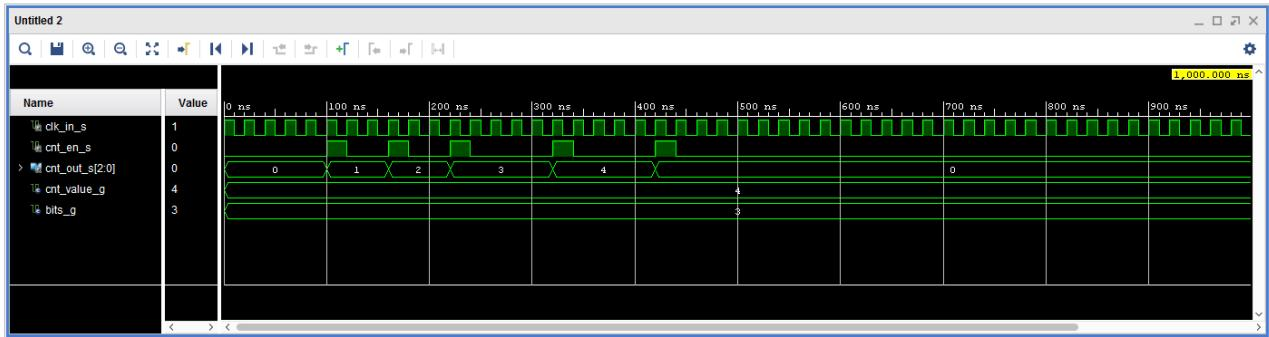

Figure 3.6: Simulation Results
7. Assuming no errors in the Vivado simulator command line, your simulation result should look similar to **Figure 3.6**.